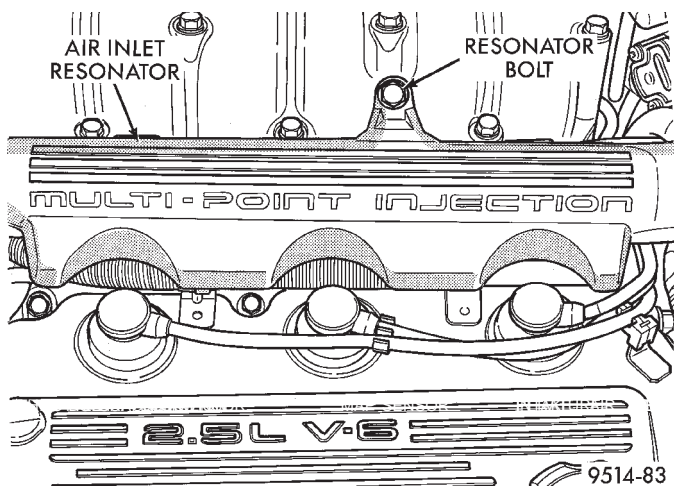

Fig. 21 Air Inlet Resonator
(6) Remove bolt holding air inlet resonator to intake manifold (Fig. 21).
(7) Loosen throttle body air inlet hose clamp.